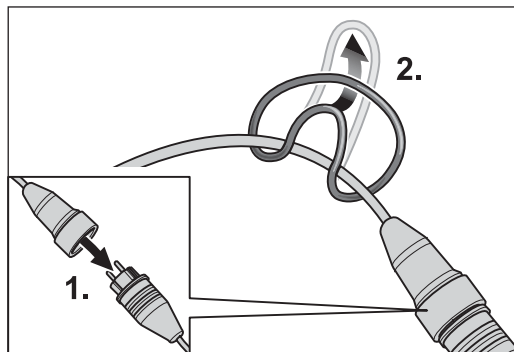
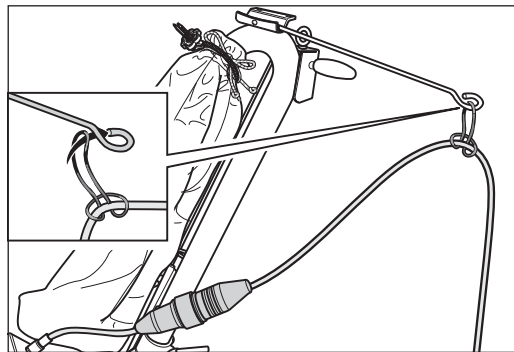

Fig. 15 Insert the plug of the motor cable in the coupler of the extension cable (1.). Fasten the strain relief ring on the extension cable (2.).
Fig. 16 Mount the strain relief ring on the cable support.
- 2 Insert the plug of the motor cable in the coupler of the extension cable (Fig. 15, 1.).
- 3 Fasten the strain relief ring on the extension cable (Fig. 15, 2.) and mount the strain relief ring on the cable support (Fig. 16).